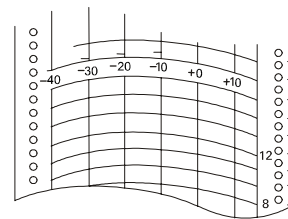

Fig. 1
1. The information on the recording chart is shown in Fig. 1.